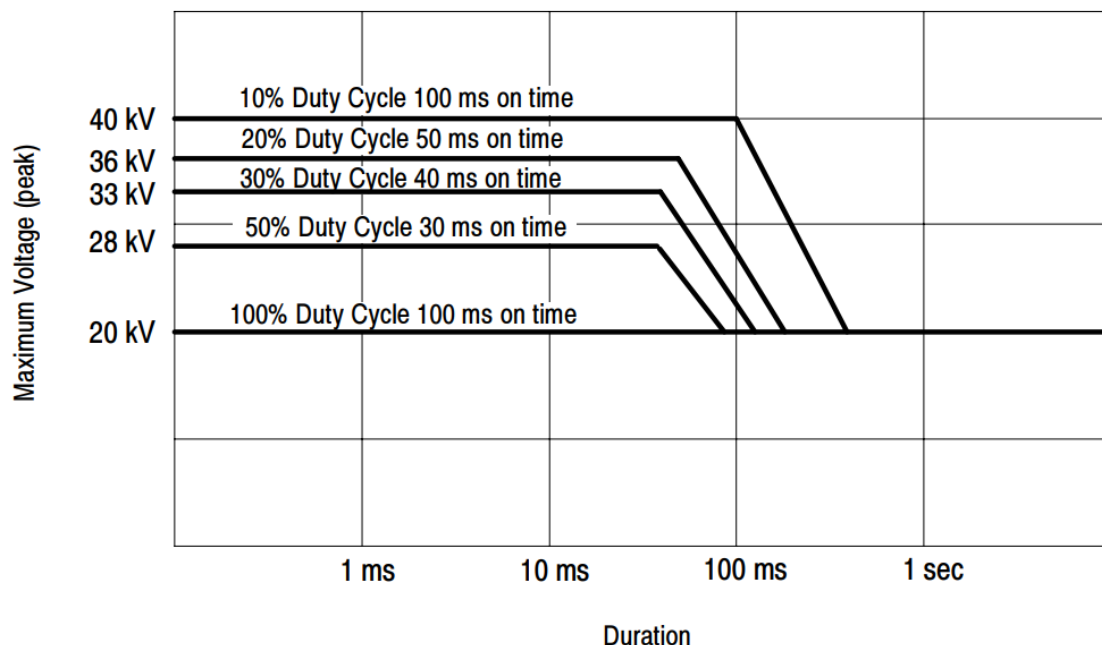
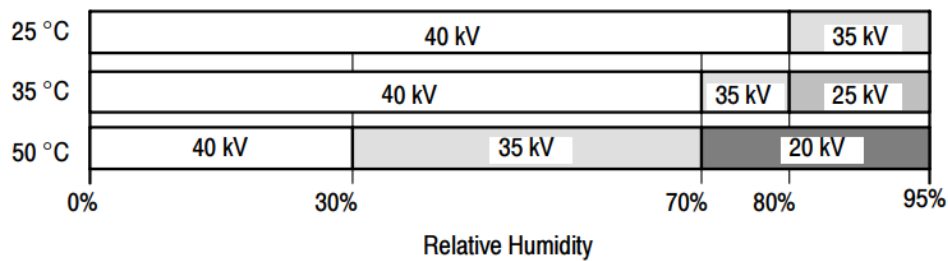

Figure 1-5: Peak Pulse Derating
Figure 1-7: Humidity Derating Chart
Peak pulse	40 kVa (Never exceed 20 kV rms) Duty cycle derating – 100 ms maximum duration at 10% maximum duty cycle. See duration and duty cycle derating curve in Figure 1-5. Altitude derating – Peak pulse derated linearly from 40 kV at 8000 feet (2440 m) to 30 kV at 15,000 feet (4570 m) altitude. Relative Humidity (RH) derating – Voltage derated with increasing temperature and relative humidity (see Figure 1-7).
Humidity Nonoperating / Operating	95% relative humidity at +50 °C (+122 °F). See Figure 1-7 for derating characteristics.